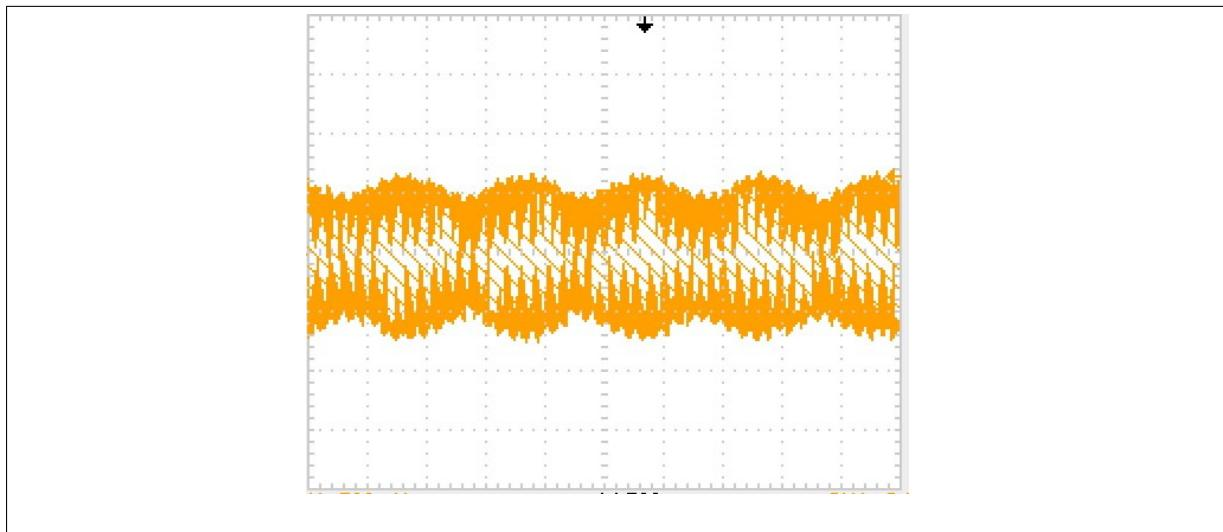

Figure 8: Oscilloscope photo of an AM modulated signal.
6. Observe the signal between JP30 and GND. You should see an amplitude modulated (AM) 27.000 MHz signal as shown in Fig 8. Set your oscilloscope time scale to $500 \mu s/div$. Set the ACQUIRE mode to Peak-detect. This setting allows the oscilloscope to capture the peak of the RF signal even though the sampling rate of the oscilloscope is not enough to capture the RF signal itself. Increase the signal amplitude of the signal generator until